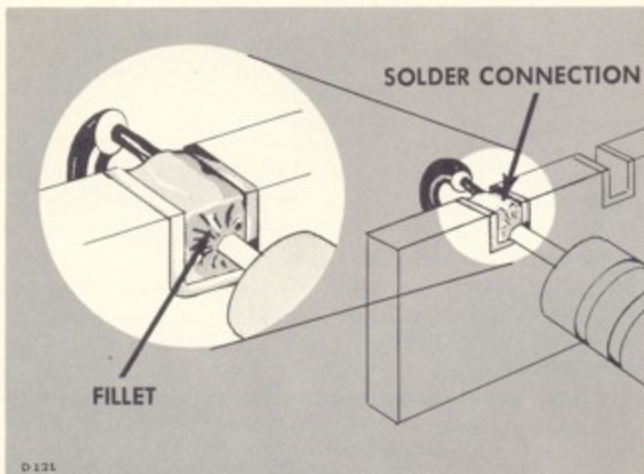
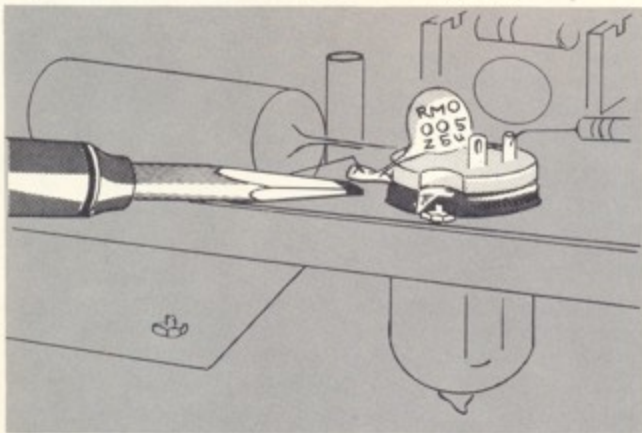

Fig. 5-3. Note the slight fillet formed on a correctly soldered joint.
Fig. 5-4. Soldering to a metal pin.
6. Do not attempt to fill the notch on the strip with solder; instead, apply only enough solder to cover the wires adequately, and to form a slight fillet on the wire as shown in Fig. 5-3.
In soldering to metal terminals (for example, pins on a tube socket) a slightly different technique should be employed. Prepare the iron as outlined above, but tin with ordinary tin-lead solder. Apply the iron to the part to be soldered as shown in Fig. 5-4. Use only enough heat to allow the solder to flow freely along the wire so that a slight fillet will be formed as shown in Fig. 5-3.